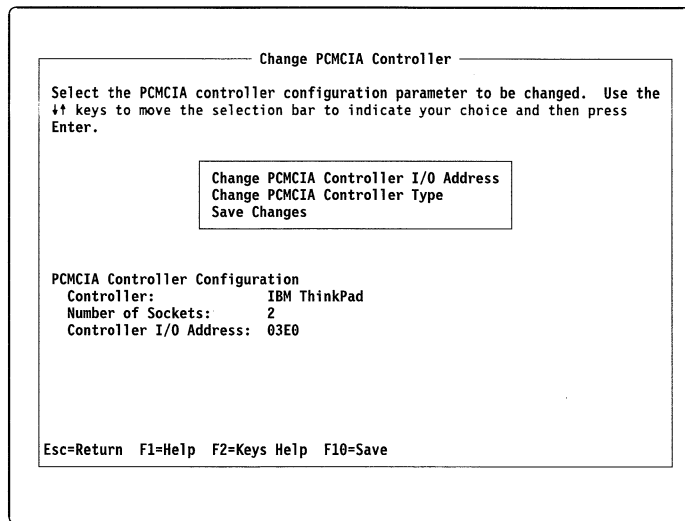

Figure 20. Change PCMCIA Controller Screen
1. From the Change Adapter Configuration screen, select the ‘Change PCMCIA Controller’ option. The Change PCMCIA Controller screen, similar to the one shown in Figure 20 on page 33, appears. This screen shows the available controllers and lets you change the controller I/O address and the type.